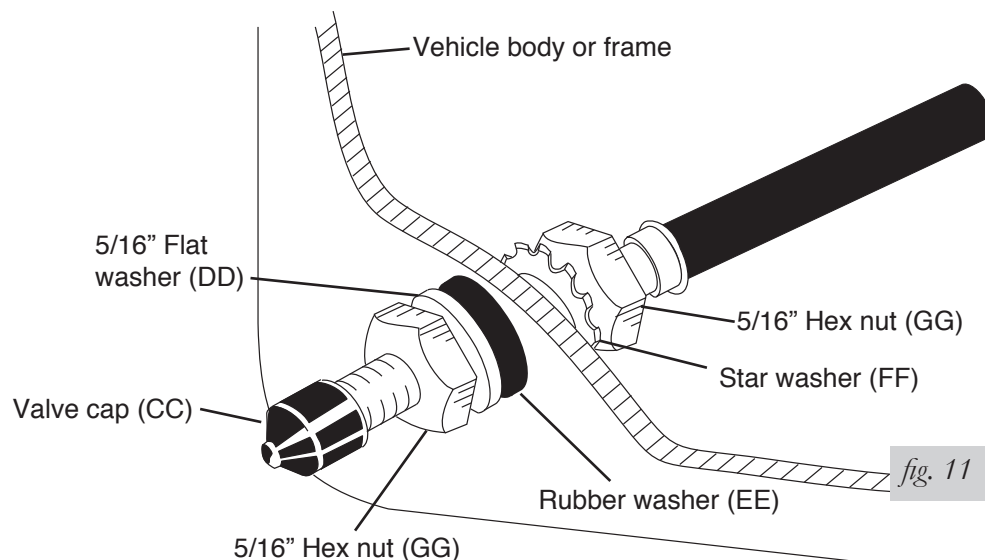

fig. 11
4. Place a 5/16" nut and star washer on the air valve. Leave enough of the inflation valve in front of the nut to extend through the hole and have room for the rubber washer, flat washer, and 5/16" nut and cap. There should be enough valve exposed after installation—approximately 1/2"— to easily apply a pressure gauge or an air chuck (Fig. 11).
5. Push the inflation valve through the hole and use the rubber washer, flat washer, and another 5/16" nut to secure it in place. Tighten the nuts to secure the assembly (Fig. 11).